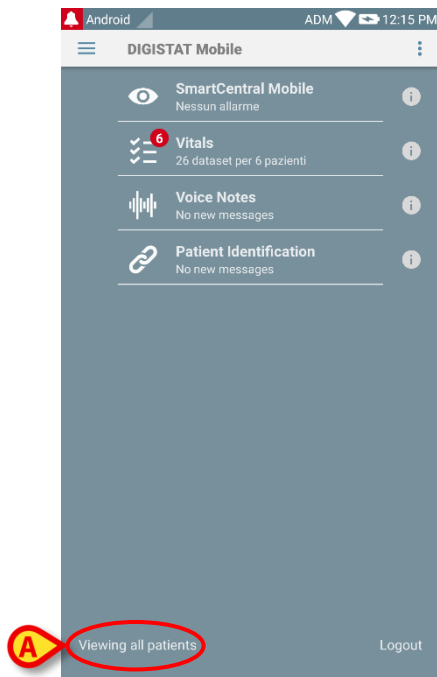

Fig 22
- Touch the “mode” indication on the lower-left corner of the screen (Fig 22 **A** - this indication shows the current application mode, i.e. either “All Patients” or “My Patients” or “One Patient”, see paragraph 5.8 for a deeper explanation).